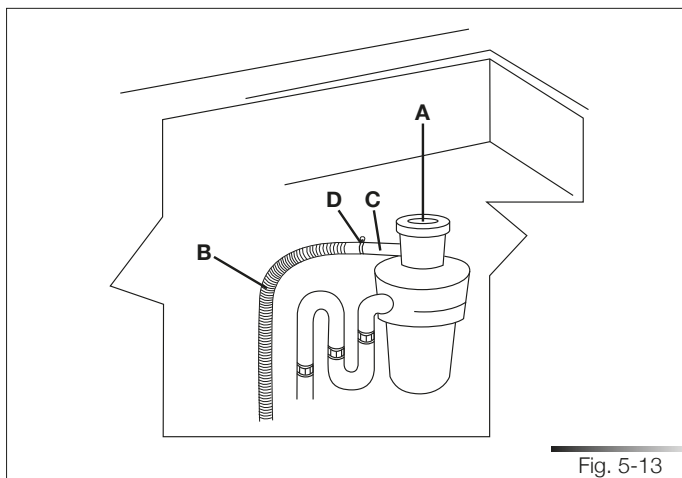

Fig. 5-13
1. Remove the cover of the waste disposal unit (ref. A fig. 5-13).
2. Connect the dishwasher drain hose (ref. B fig. 5-13) to the waste disposal unit inlet (ref. C fig. 5-13), using the wide spring clamp (ref. D fig. 5-13).